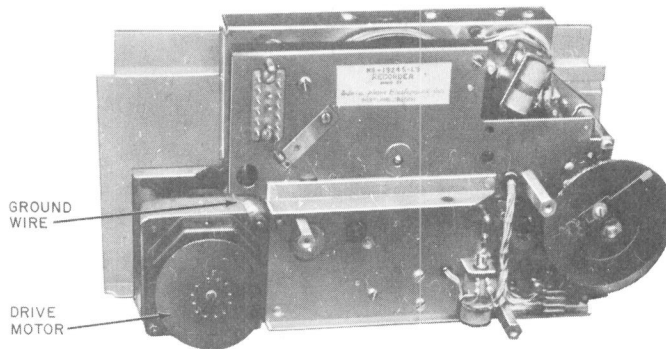

Fig. 6—KS-19245, List 3 Recorder, Motor Side
4.02 KS-19245, List 3 Recorder (Fig. 6):